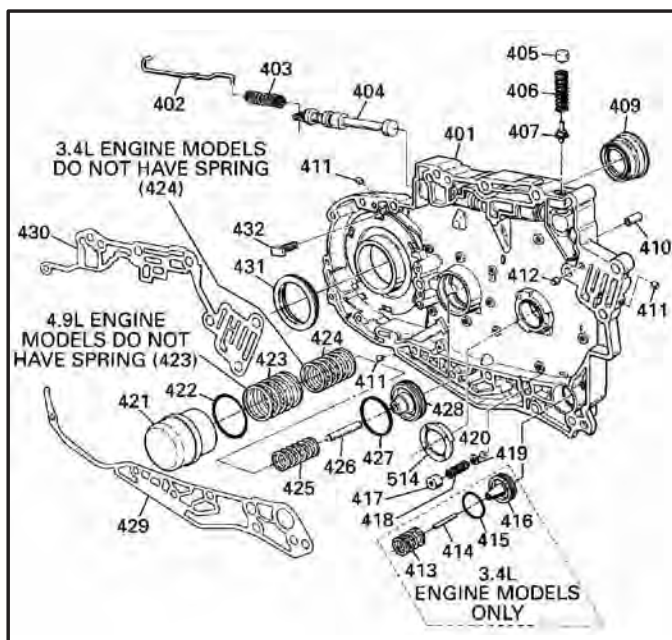

Figure 61
35. Set the channel plate assembly aside for the component rebuild section. Exploded view of channel plate components shown in Figure 61.